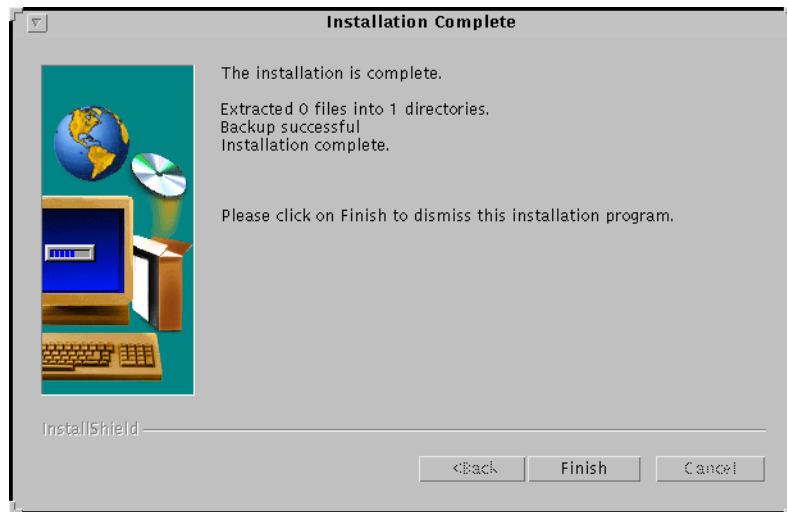

Figure B-5: Installation Complete Screen
10. When the backup completes, the Installation Complete screen appears (see Figure B-5). This screen displays the results of the backup.